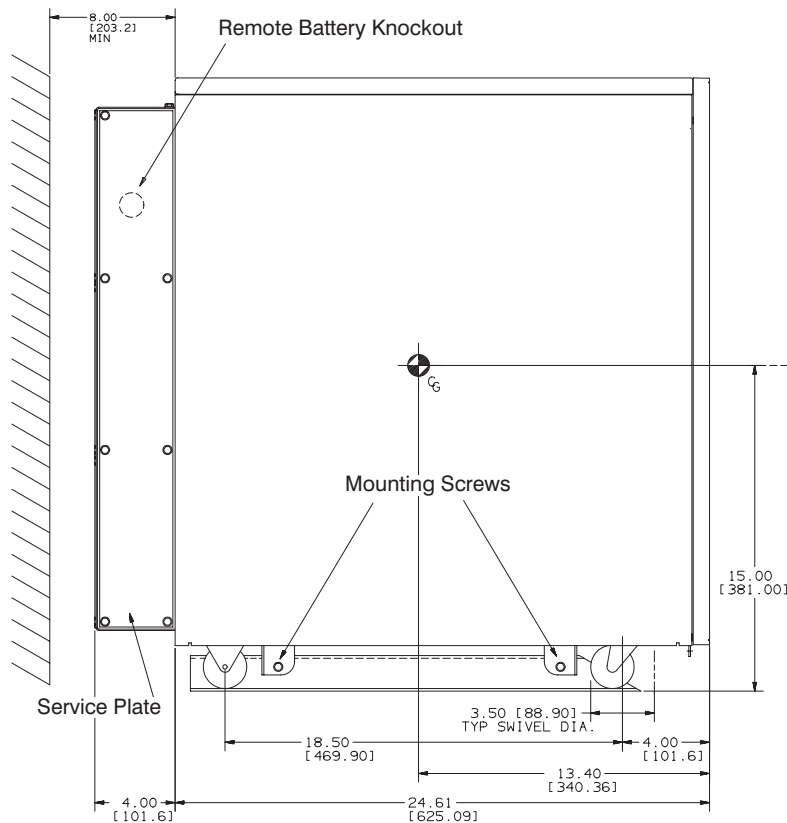

Figure 26. Remote Battery Access
2. Remove the knock-out for the conduit as shown in Figure 26.